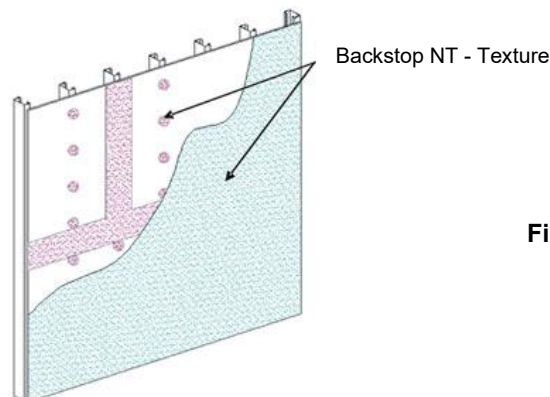

Figure 16
- Use a coarse, open-cell foam roller cover with a 3/8 in (9.5 mm) foam nap (FoamPRO #58 roller). Apply a uniform, continuous film of Backstop NT – Texture over the entire surface of the sheathing, concrete or masonry, including the previously treated areas – Figure 16. **NOTE: If the roller pulls material back out of the sheathing joints, it indicates that the joint material is not sufficiently dry.**